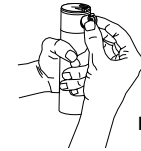

Figure 5
6. Insert the replacement nozzle with the ears on top and turn the screw back into place (Figure 5).